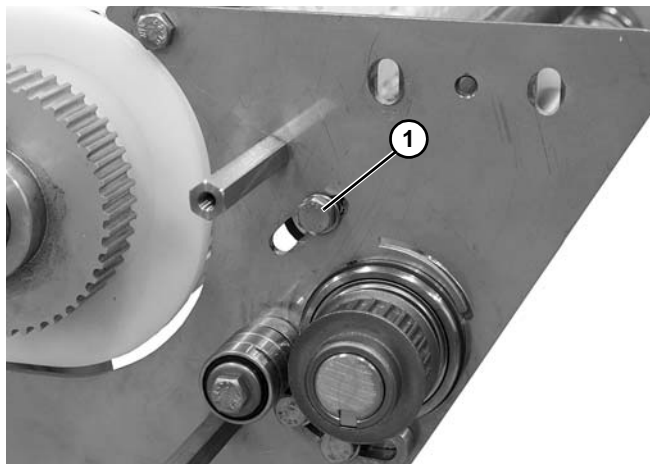

Figure 68
11. Remove hex head screw (**Figure 68, item 1**) on both sides of the power transfer and remove idler assembly.